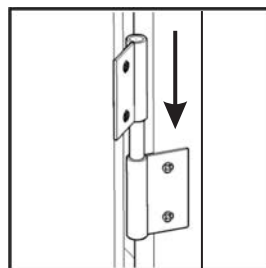

Figure 4
Attach Doors (A) and (B) to unit by sliding the door lift hinges into the side panel lift hinges. (see Figure 4)